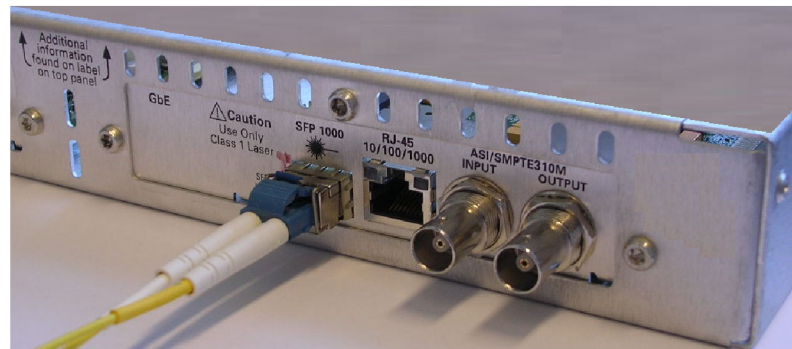

Figure 8: Optical cable connected to SFP module
- b. Insert the optical cable into the SFP module. When fully inserted, the cable connector is latched in position. (See Figure 8.)